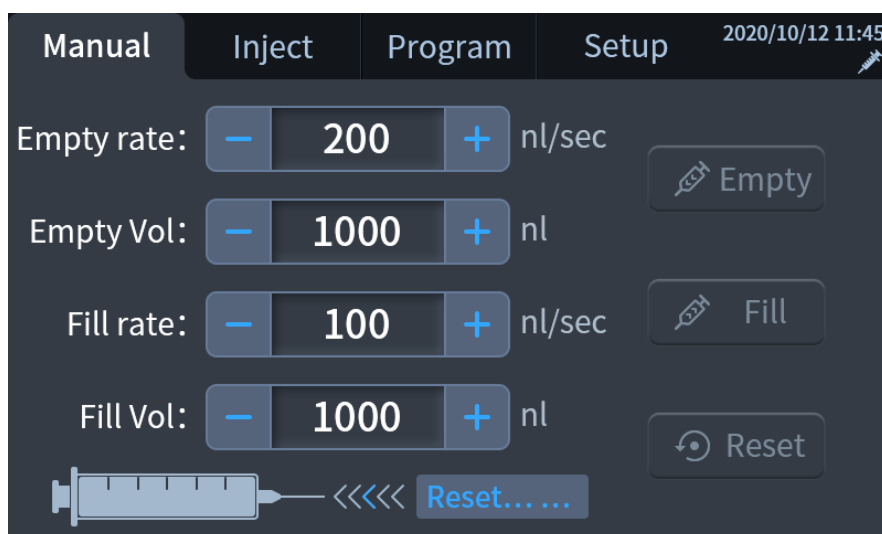

Figure 6-4
- 3) Click  to return the steel plunger to the initial position, as shown in Figure 6-4.